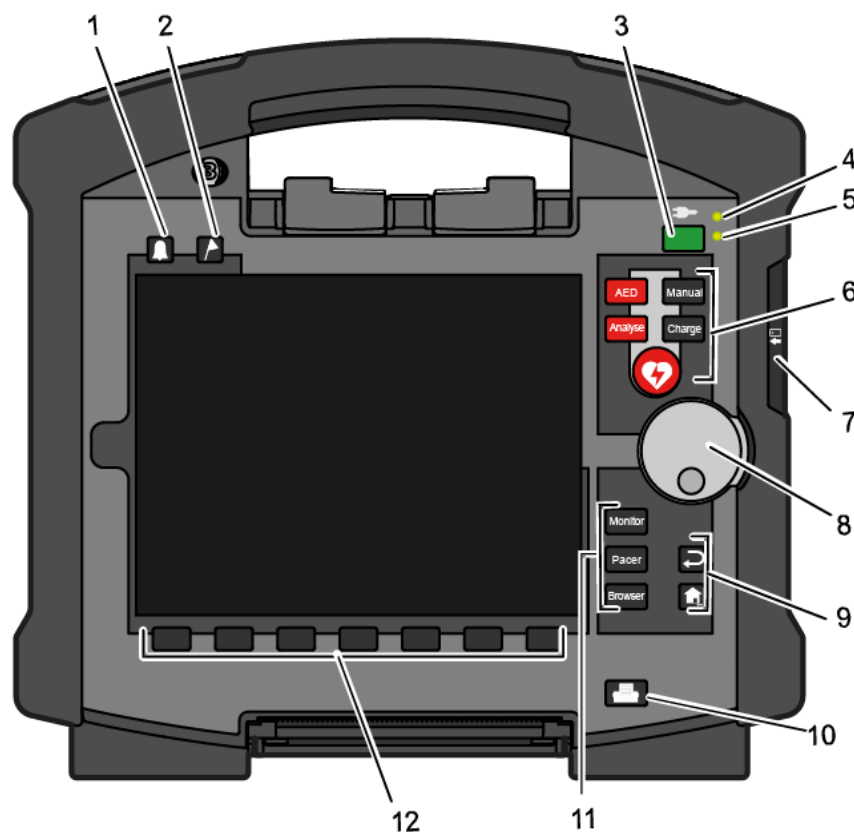

Fig. 4-1 Monitoring unit, operating elements and LEDs
Operating mode keys The different operating modes are selected by pressing the following keys (Fig. 4-1, item 11):
The function keys **Back** and **Home** (Fig. 4-1, item 9) are used to control the device:
Print key Pressing the **Print** key (Fig. 4-1, item 10) starts the real-time printout of the curves. Pressing the **Print** key again interrupts every running print job (log, D-ECG, real-time printing).
The softkeys (Fig. 4-1, item 12) are assigned different functions, depending on the current operating mode or selected dialogue. The current function is displayed in the softkey line.
By pressing the **Alarm** key (Fig. 4-1, item 1), the alarm history of all physiological and technical alarms is called up. All the alarms which have occurred appear in this list with their time of occurrence.
If the **Event** key (Fig. 4-1, item 2) is pressed briefly, a time stamp is saved which marks the current ECG data and parameter values. Based on this marking, this data can subsequently be located in the data memory, viewed and assessed. The message **Event recorded** appears in the message line.